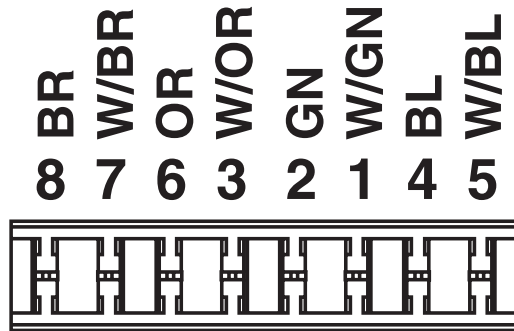

Figure 1. Color codes on the T568A side of the wiring label.
3. Next, punch down the cable. Place each wire pair next to the appropriate wiring color/label. Refer to Figures 1 and 2 for T568A and T568B color codes.